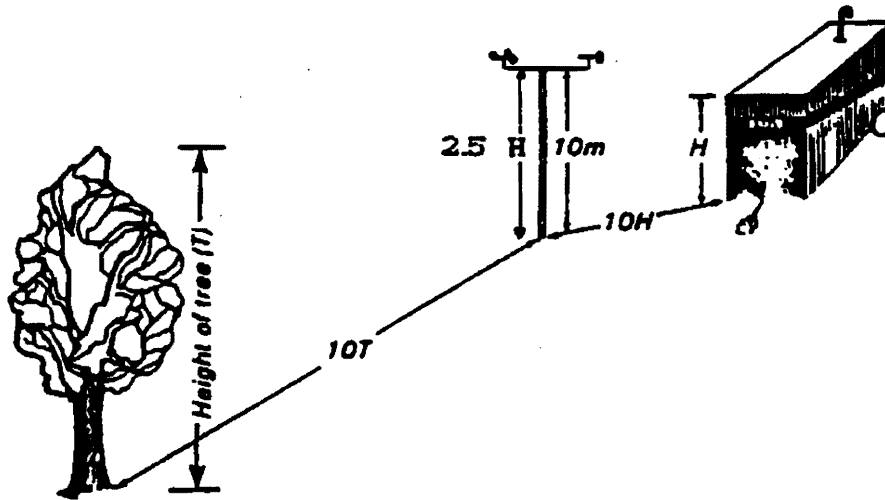

Figure 2-1 Siting Wind Instruments
The standard exposure of wind instruments over level, open terrain is 10 meters above the ground. (WMO 1971), however optimum measurement height may vary according to data needs. Open terrain is defined as an area where the horizontal distance between the wind sensor and any obstruction is at least ten (10) times the height of that obstruction. An obstruction may be man-made (such as a building) or natural (such as a tree) (See Figure 2-1)